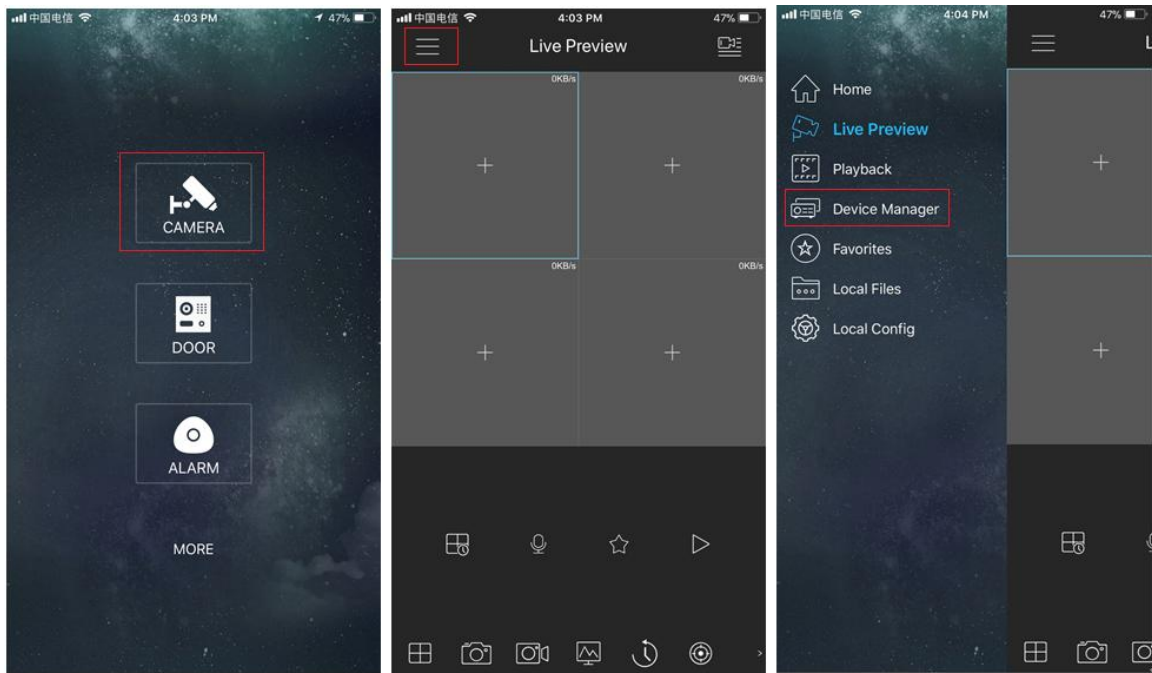

Figure 4-205
- 1) Click and select Device Manager. See Figure 4-205.